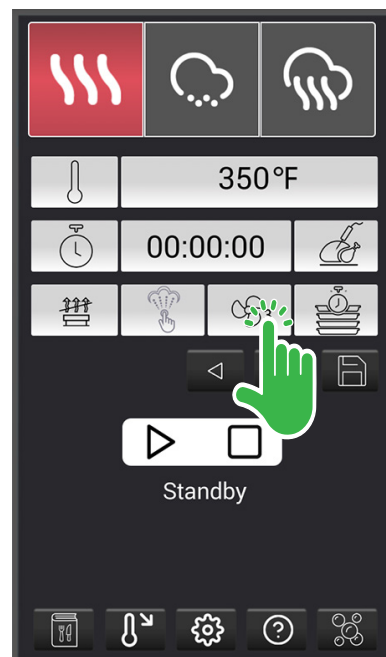

Fig. 29
- Touch the Fan Speed icon (Fig. 29) to toggle between the various available fan speeds.